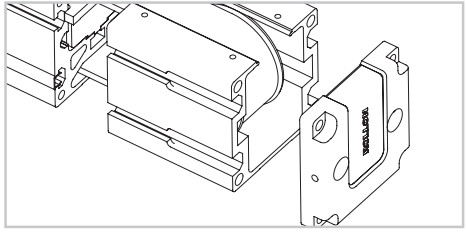

Fig. 11
- 11) Separate the idle head from the profile and remove the pulley (Fig.11).